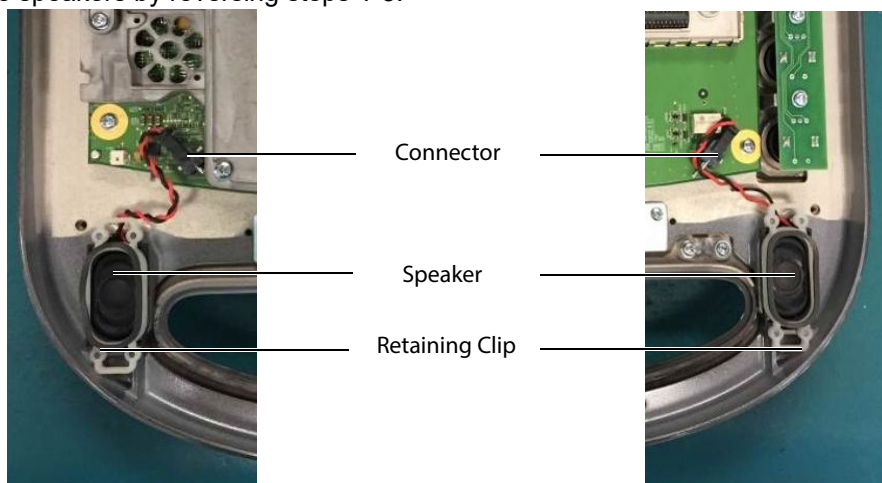

Figure 6.11 Speaker Replacement
- 2 Gently pry off the retaining clip with a flat bladed pry tool. See Figure 6.11.